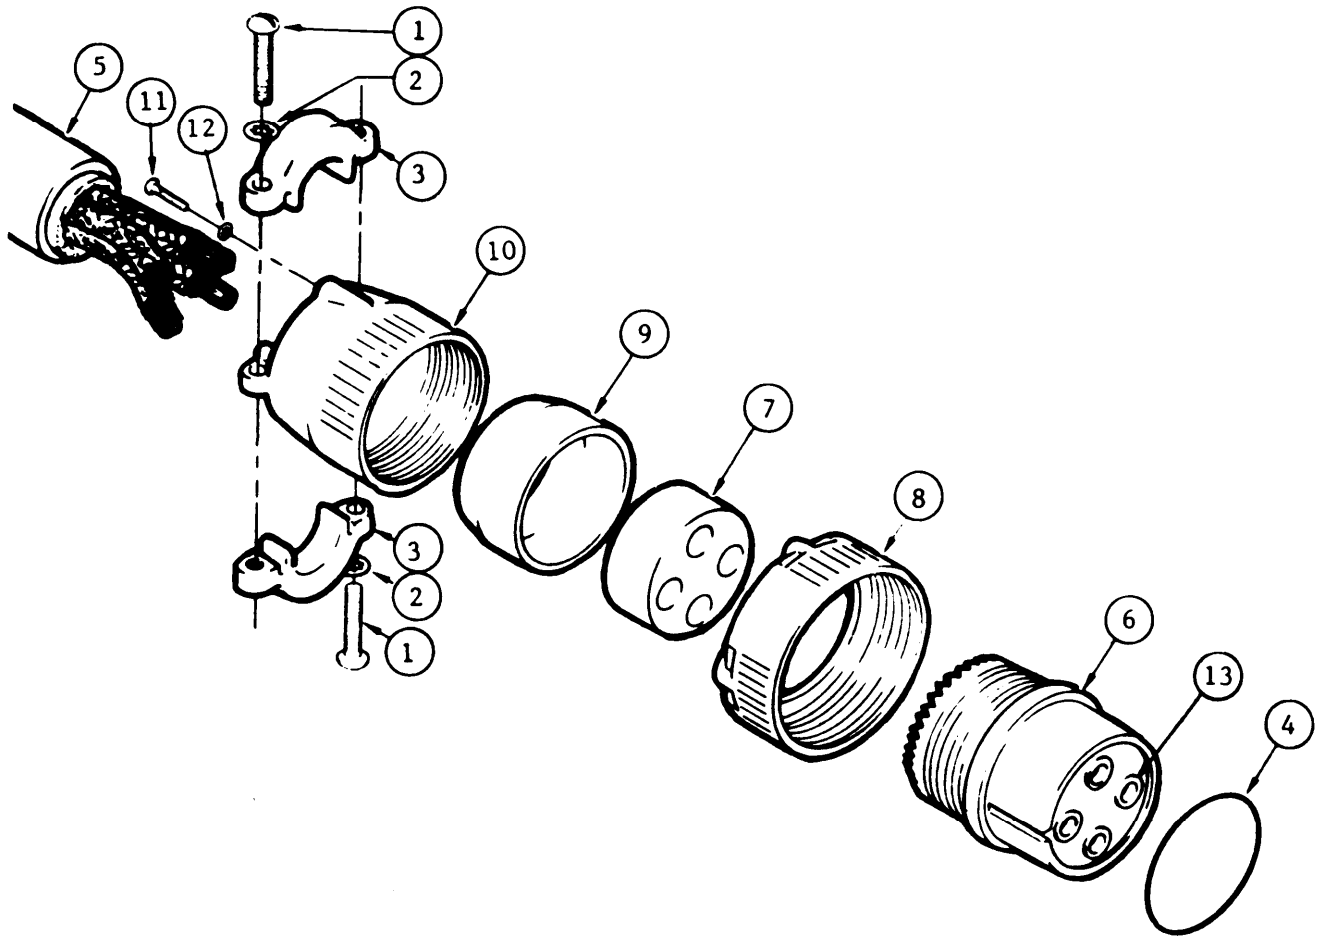

Figure 2-71. Onboard Power Connector (Typical)
b. Removal. (Figure 2-71)
e. Reassembly. (Figure 2-71)
- (1) Insert cable (5) through connector shell (10).
- (2) Slide connector shell (10) down cable (5).
- (3) Insert cable (5) through replacement plastic insulating bushing (9).
- (4) Slide plastic insulating bushing (9) down cable (5).
- (5) Slide knurled retainer nut (8) over cable (5).
- (6) Insert each tagged lead of cable (5) through a hole in the neoprene bushing (7).
- (7) Slide neoprene bushing (7) down leads as far as possible.
- (8) With soldering iron, solder each tagged lead to its proper contact.
- (9) Remove tags from leads.
- (10) Slide neoprene bushing (7) over leads and soldered joints of contacts.